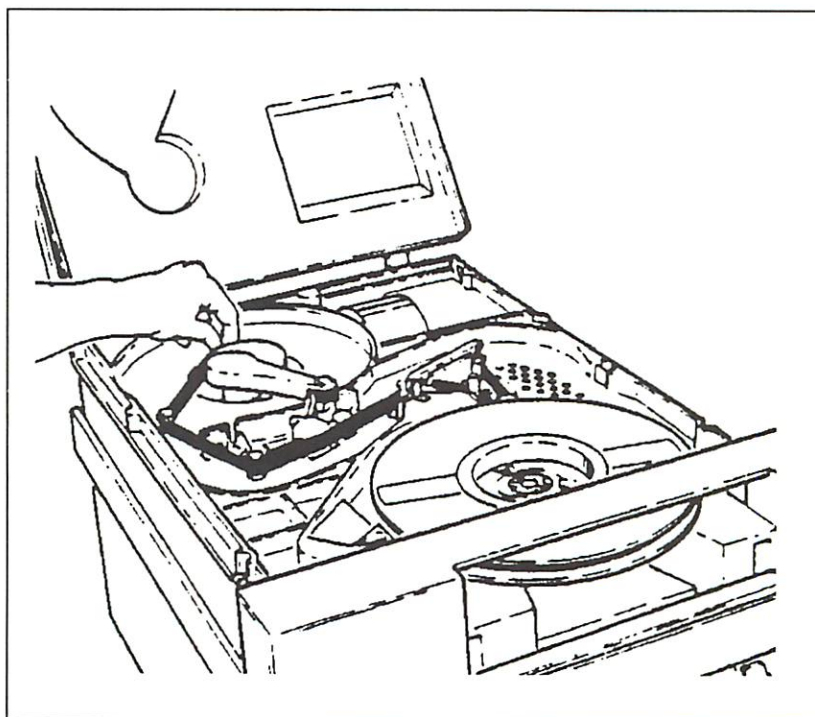

Figure 4-10. Loading Tape
5. Remove fastener from squared-off end of ½ inch tape 1200 or 2400 feet reel, and insert with tape uncoiling clockwise through hinge-up doorway (Figure 4-10).